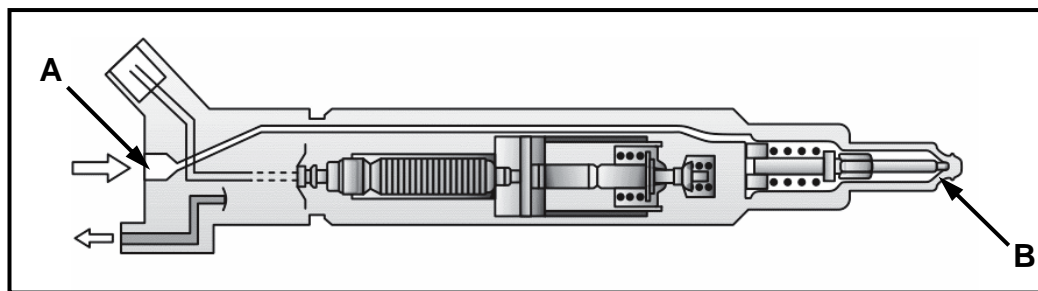

FIGURE 10.9
10.9 Label **A** and **B** of the piezo injector shown in FIGURE 10.9 below.